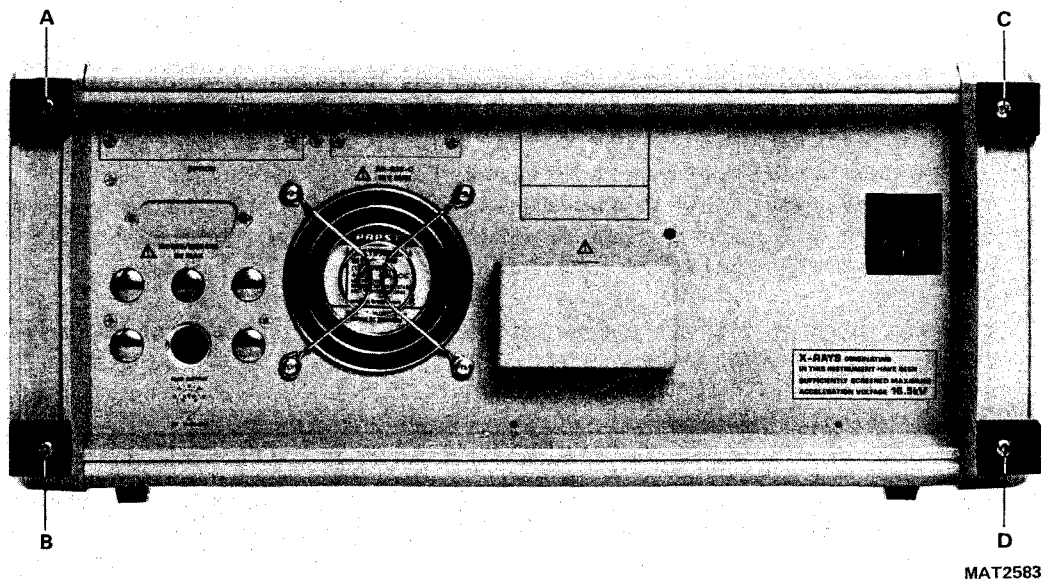

Figure 2.2 Removing the rear feet.
- Unscrew the two screws A and B present in the left foot and the two screws C and D present in the right foot at the rear panel and remove these feet (see figure 2.2).